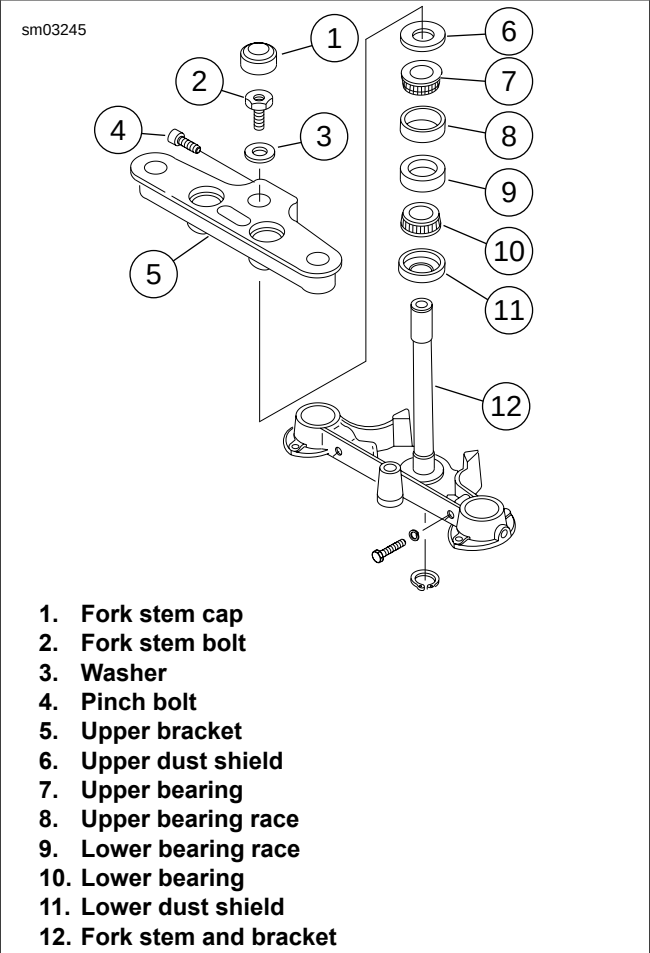

Figure 1-42. Steering Head: FLSTC, FLSTF/B, FLSTN, FLS
- See Figure 1-42. Loosen the upper fork stem pinch bolt (4).
- Loosen the fork stem bolt (2) slightly.
- See Figure 1-42. Loosen the pinch bolt (4).
- Tighten the fork stem bolt (2) slightly.